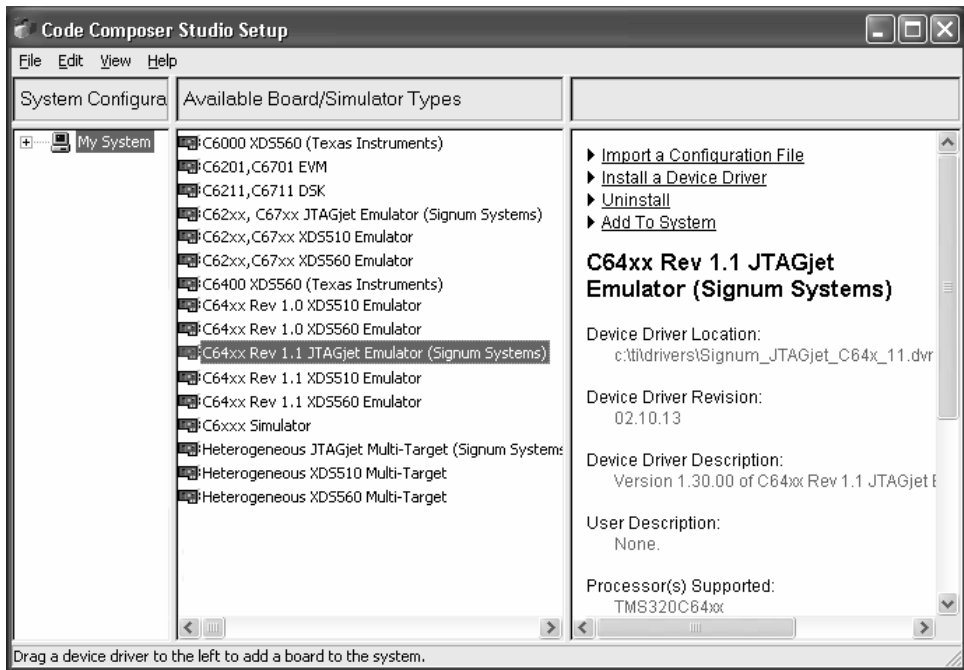

FIGURE 10 Code Composer Studio Setup dialog box.
1. Make sure that the System Configuration pane in the CCStudio Setup dialog box is empty. Choose the Emulator corresponding to your target from Table 1. Locate the same entry in the Available Board/Simulator Types pane of the dialog box and drag it to the System Configuration pane. In our example, we drag the C64xx Rev. 1.1 JTAGjet Emulator (Signum Systems) entry, as shown in Figure 10.